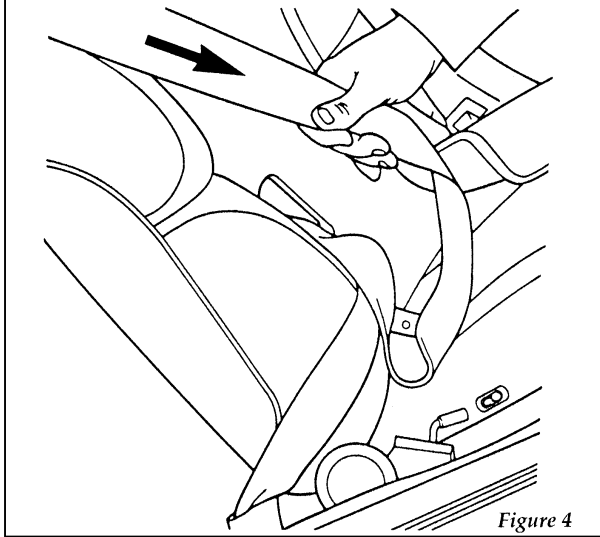

Figure 4
5. Allow the belt to retract. A clicking sound will be heard as the belt retracts. This indicates the retractor is in the automatic locking mode, Figure 4.
5. Grasp the shoulder portion of the belt and pull downward until all of the belt is extracted and a click is heard. At this time, the retractor is in the automatic locking mode (child seat restraint mode). See Figure 4.